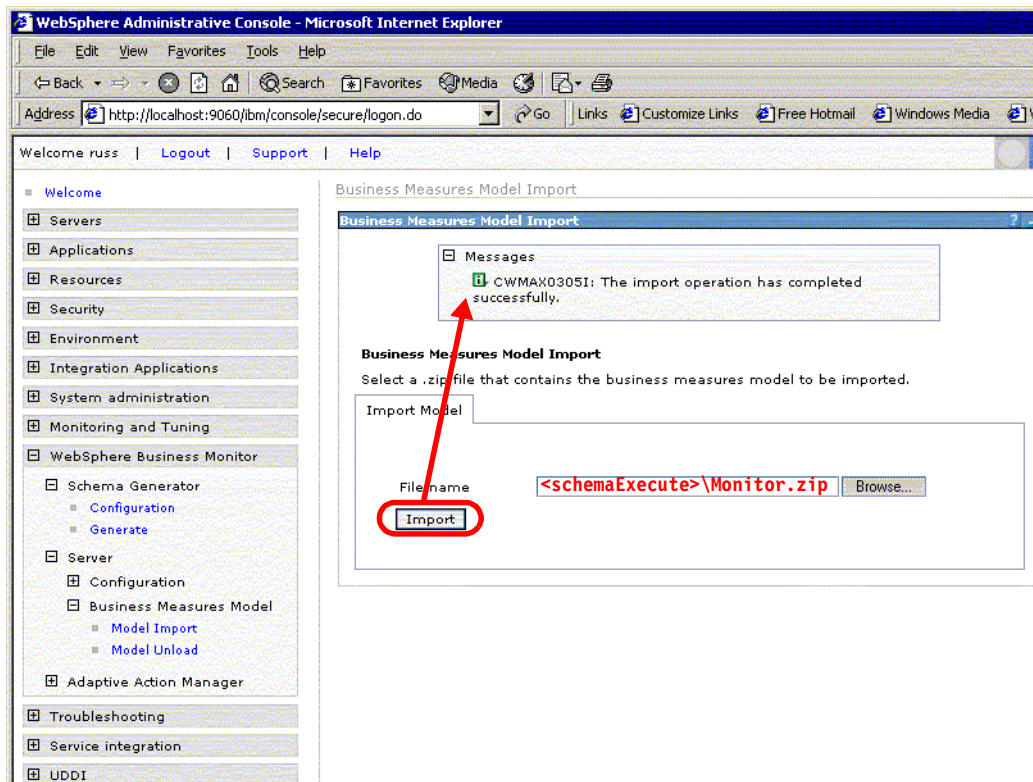

Figure 12-14 Business measure import successfully completed
- ▶ Click *Import*. This will take some time, depending upon the complexity of your model. Wait until you see the confirmation screen, stating that the Import was successful (Figure 12-14).